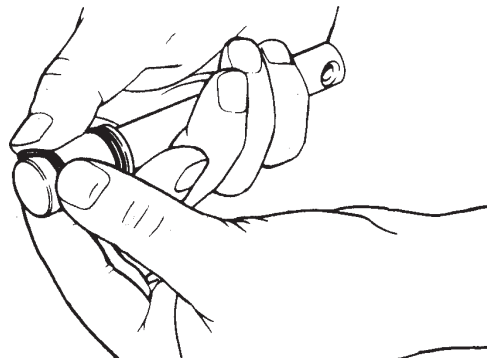

Figure 25. Removing O-Ring
- I. Remove all "O" Rings from parts by first wiping off the lubricant using a clean paper towel. Then squeeze the "O" Ring upward with a dry cloth. When a loop is formed, roll out of the "O" Ring groove (Fig. 25).